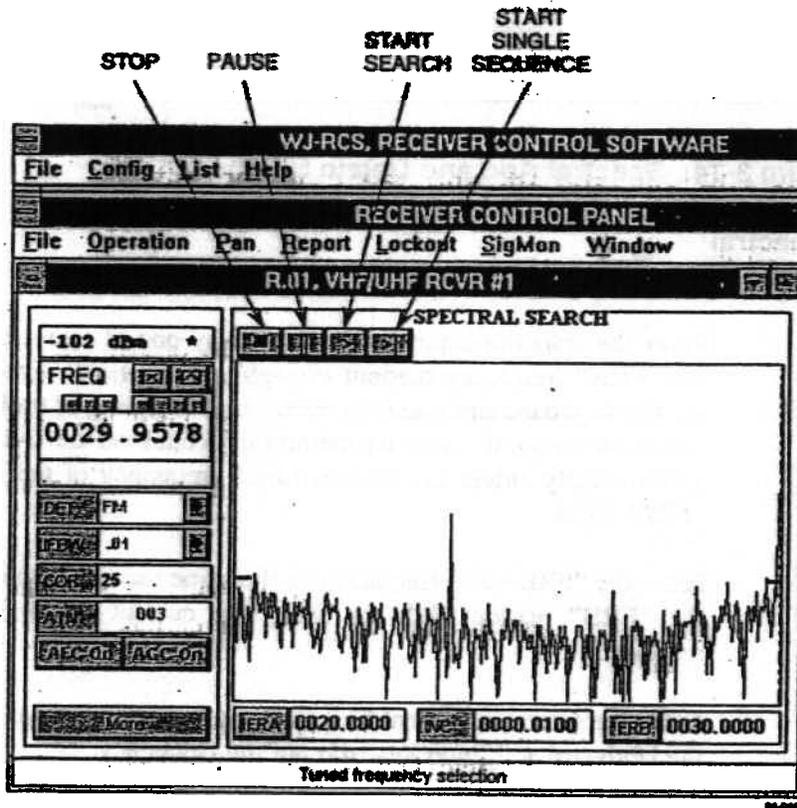
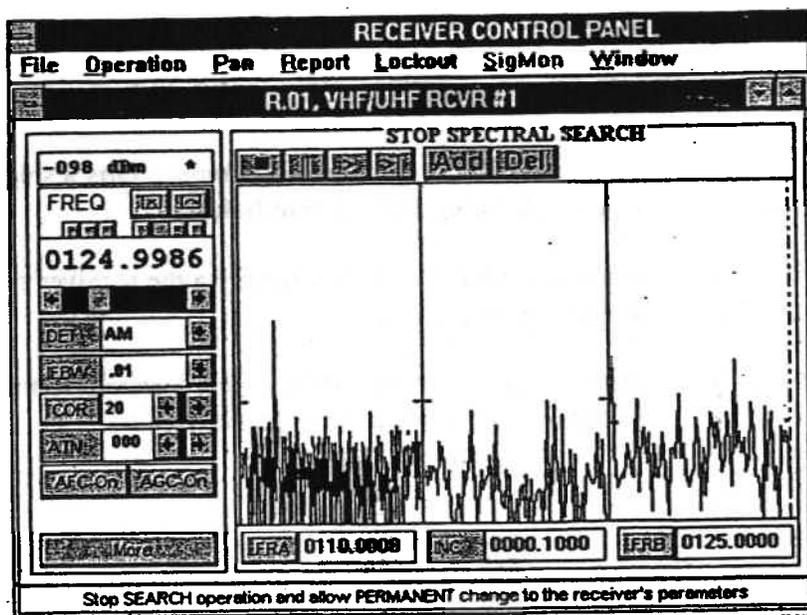
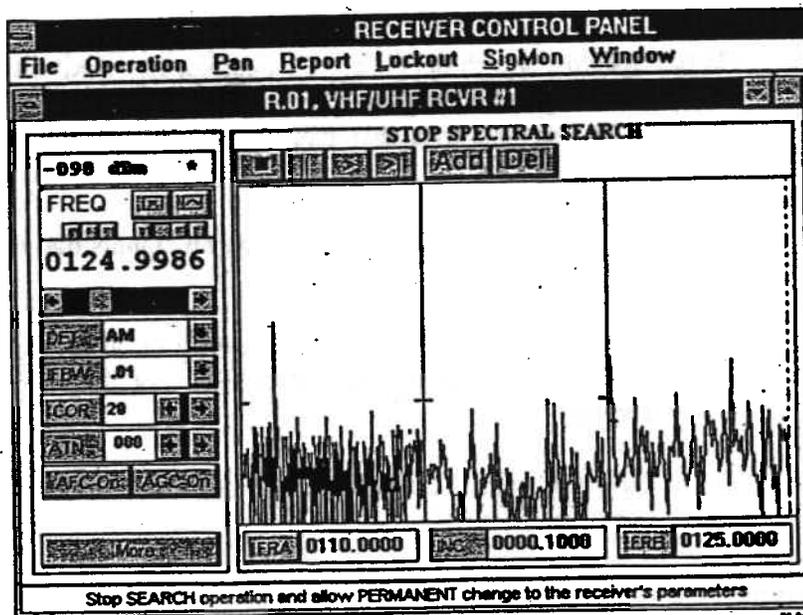

Figure 3-13. Spectral Mode Sweep Control Buttons
Figure 3-14. Spectral Add and Delete Sector Buttons
Figure 3-15. Spectral Operation With Three Sweep Sectors
Spectral Search operation permits and executes up to ten independently programmed sweep sectors. See Figure 3-13 and 3-14. To add a sweep sector, use the "Stop" control button to stop the search operation. Click on the "Add" button to open another sweep sector. The operator can then change the new sector to the desired values. After completing the set-up of the sweep values, click on "Start Search" button to activate the search. During the Spectral Search operation, RF Pan displays of each sweep sector is available on screen. Use the "Pan" menu from the menu bar to manipulate and tailor the RF presentation for optimum viewing. There are two groups of control buttons located directly above the RF Pan display that play a major role in the spectral search operation. These buttons, from left to right respectively, perform the following functions:
To start the sweep, click on the Start Search or the Single Sequence Search button. See Figure 3-13. The single Sequence Search button enables a single sweep of the sector while ignoring the receiver's COR value. The Start Search button starts the receiver's normal sweeping action.
To create additional sweep sectors, stop the sweeping operation by clicking on the Stop Search control button. See Figure 3-13. The current sweeping action stops and two control buttons appear above the Pan Display. See Figure 3-14.
Add additional sectors in the same manner. Each click on the "Add" button produces an additional sector on the Pan Display. Ten sectors are available per receiver. After creating the sectors, start the receiver sweeping action by clicking on the Start Search button (see Figure 3-13). Figure 3-15 depicts a receiver configured with three sweep sectors.
To delete sectors, stop the receiver sweep by clicking on the Stop Search button (see Figure 3-13). Place the cursor within the sector being deleted and click the mouse. Click on the "Del" button above the Pan Display. See Figure 3-14.
- Suspend the sweep by clicking on the desired signal. A dashed vertical line appears and the frequency readout on the receiver control panel displays the selected frequency. Click on the Lockout Control button to add the data. Restart the sweep by clicking the Start Search button above the Pan Display (see Figure 3-13).